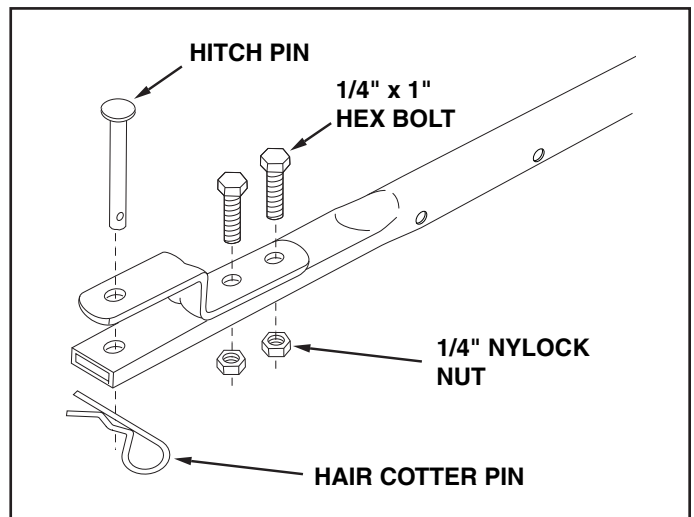

FIGURE 6
13. In order to assemble the hitch bracket to the hitch tube, turn the spreader upright on its wheels. Assemble the bracket to the top of the hitch using two 1/4" x 1" hex bolts and 1/4" nylock nuts. See figure 6.